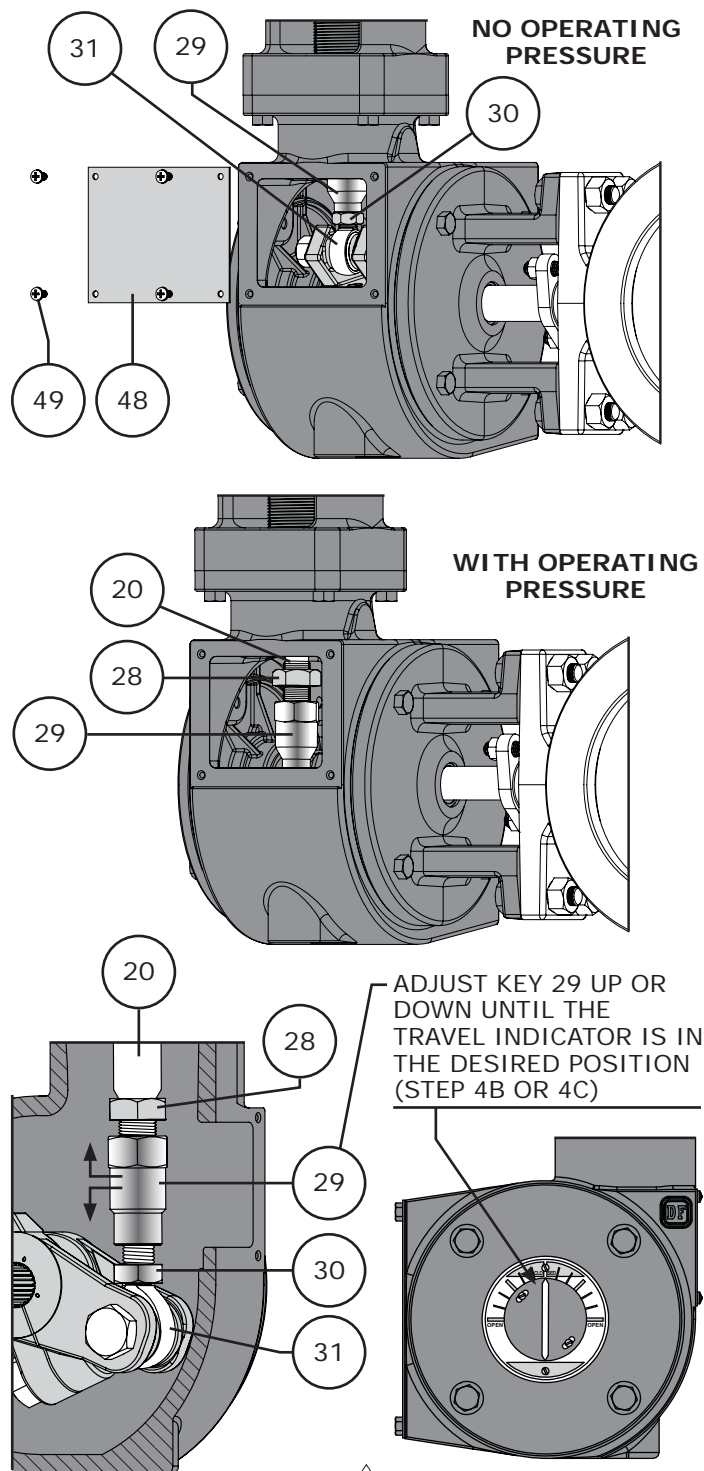

Figure 8 Turnbuckle Adjustment
- 1 Remove the cap screws (Key 49) and access plate (Key 48). **Note:** DO NOT remove the cover plate assembly (Keys 36, 37, 38, 39, 40, 41, 42, 43, 44, & 45) during actuator adjustment. The cover plate assembly supports the valve shaft (Key V) and should never be removed when stroking the actuator. Refer to Figure 8.
- 3 Apply enough operating pressure to the diaphragm casing to stroke the actuator until the left-hand threaded hex nut (Key 28) can be accessed through the access plate opening. Loosen the hex nut. Refer to Figure 8.
- A Slowly stroke the actuator down until the maximum operating pressure is reached. Make note of the valve ball/disk position. Refer to Figure 8 & 9.
- B Adjust the turnbuckle (Key 29) as needed until the valve reaches the closed position, indicated on the travel scale (Key 38). Refer to Figure 8.
- C** Apply operating pressure to the actuator until the turnbuckle (Key 29) is accessible through the access plate (Key 48) opening. Adjust the turnbuckle, valve ball/disk should visibly rotate accordingly. Refer to Figure 8.
- 5** Re-install the access plate (Key 48) using the 4 cap screws (Key 49). Refer to Figure 8.